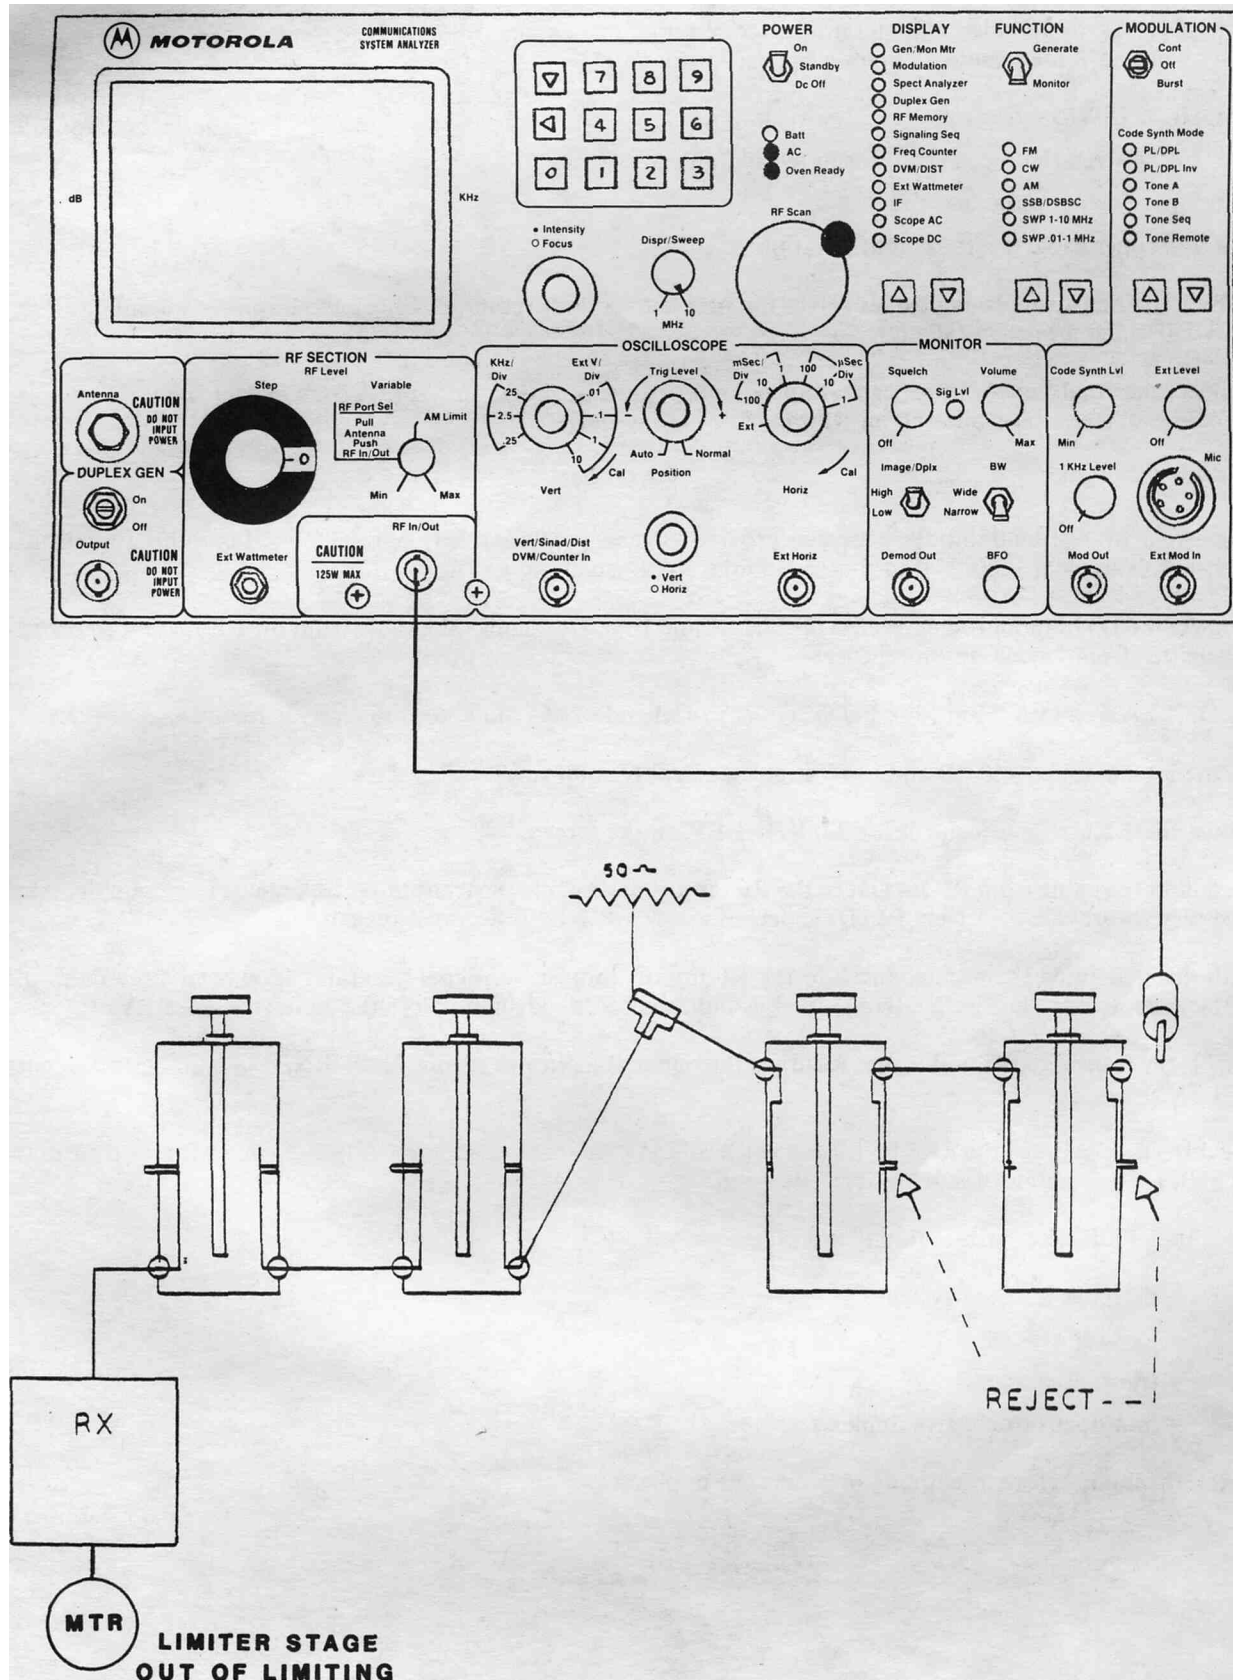

FIGURE 4-23. DUPLEXER ADJUSTMENT SETUP;
1. Connect the Analyzer's RF In/Out to the in-service duplexer as shown in figure 4-23. Disconnect the cable at the duplexer transmitter port that comes from the transmitter. Move the Analyzer's RF In/Out cable from the duplexer receiver port to the duplexer transmission port. Reconnect the cable coming from the receiver to the duplexer receiver port. Disable the receiver PL.